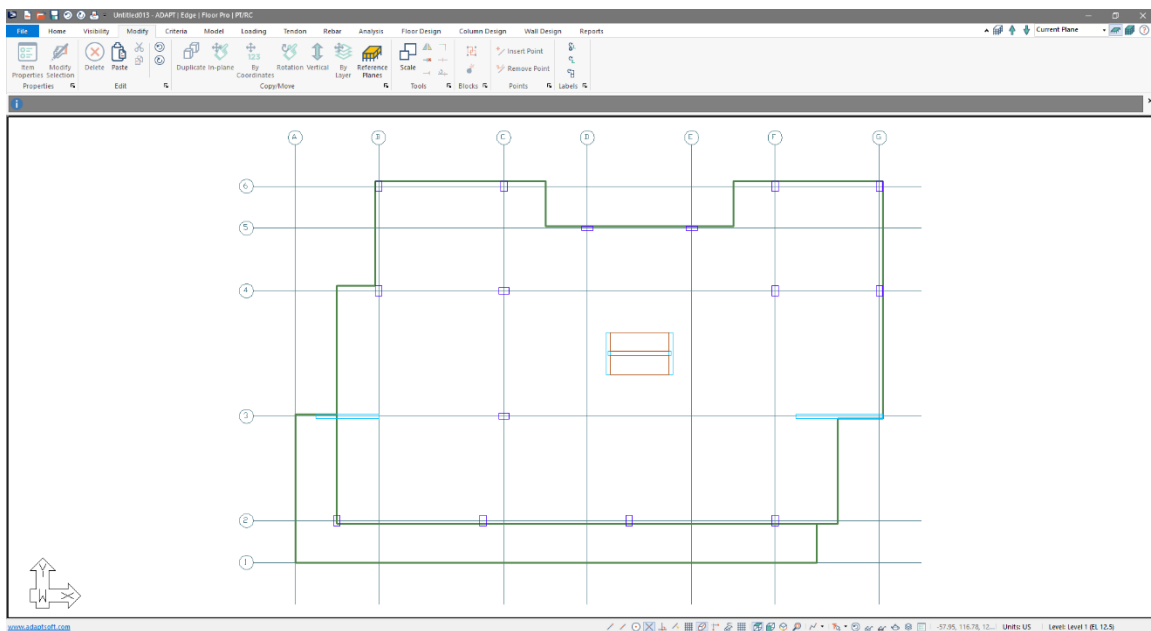

Figure 2-33
- Click on the *Zoom Extents* icon . The user should see the openings modeled as shown in **FIGURE 2-33**.